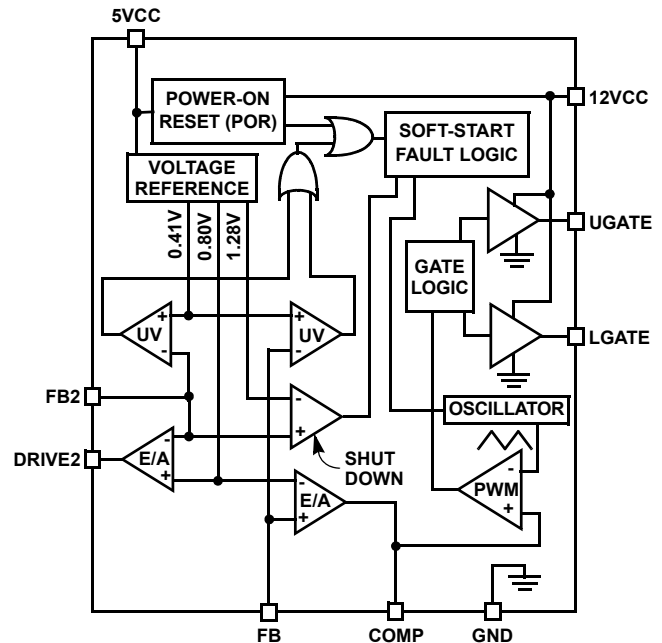

FIGURE 2. ISL6529 BASIC BLOCK DIAGRAM
A simple block diagram of the ISL6529 is shown in Figure 2. Integrated high-bandwidth error amplifiers and an accurate internal voltage reference insures static voltage regulation of  $\pm 2\%$  for the ISL6529C and  $\pm 1\%$  for the ISL6529AC over line, load and temperature ranges. Simple undervoltage (UV) comparators monitor the FB lines of each regulator and shut down both outputs when a fault is detected on either FB input. For a more detailed description of the ISL6529 functionality, refer to the ISL6529 Data Sheet [1].